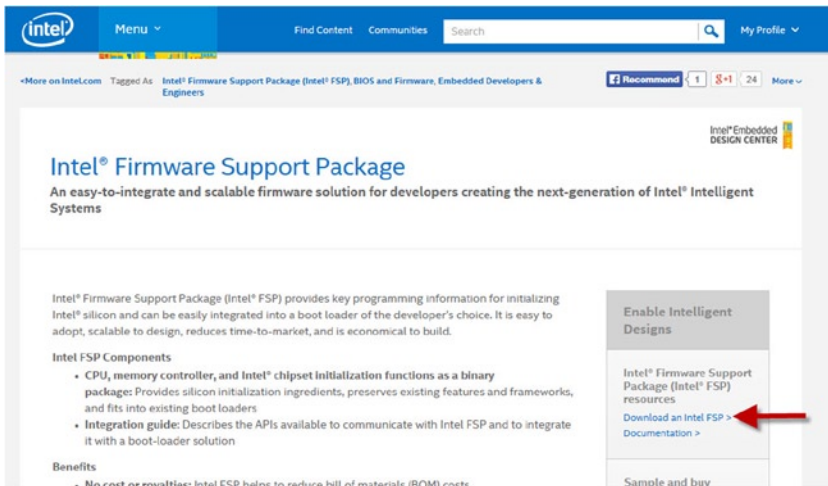

Figure 3-4. Intel FSP download web site
2. Go to www.intel.com/fsp/ and select the “Download an Intel FSP” link, as shown in Figure 3-4.